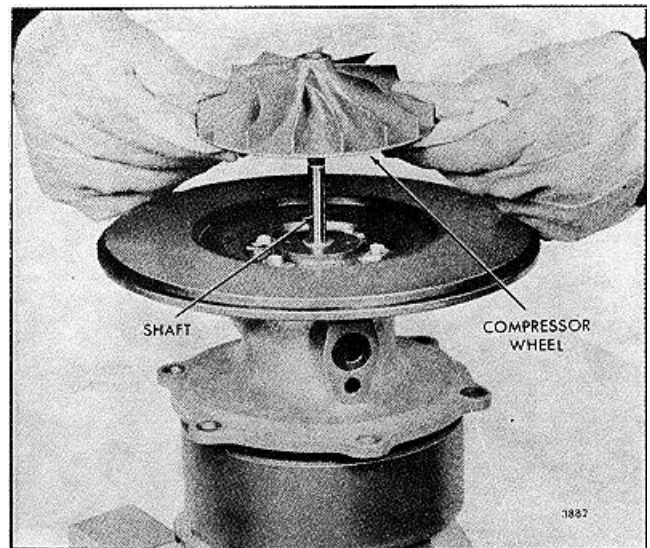

FIG. 32 - Installing Compressor Wheel on Shaft
- b. After heating the compressor wheel, remove the wheel and start it straight on the shaft (Fig. 32). Push the wheel down against the thrust spacer.